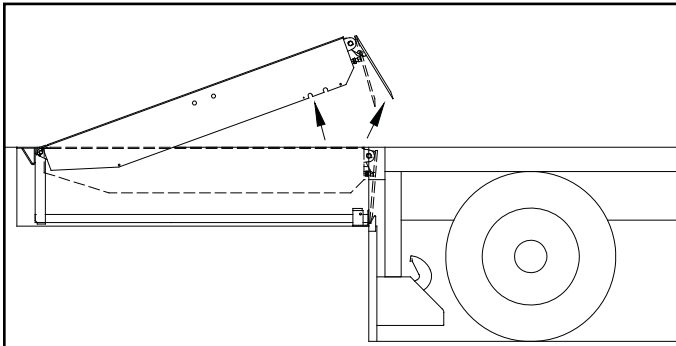

FIGURE 6 - END LOAD OPERATION - LIP POSITION
1. Activate the leveler by pushing and holding the RAISE button until leveler is fully raised and lip begins to extend. See figure 6.